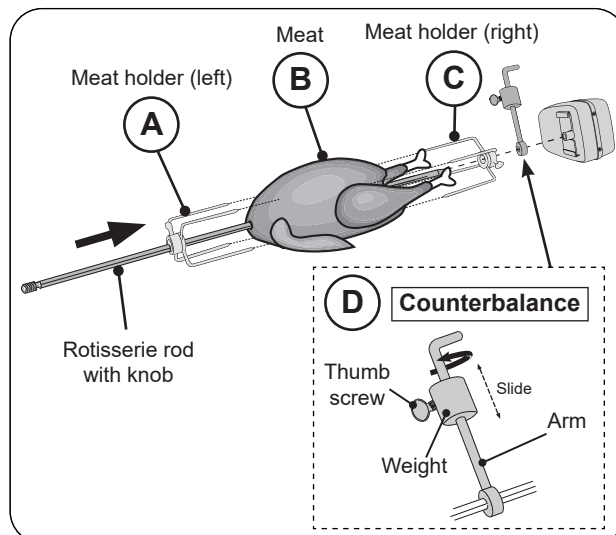

Fig. 39-3 Assemble rotisserie rod for cooking
4. Slide the left meat holder onto the rod and tighten (see Fig. 39-3, A).
5. Then slide meat onto the rod, followed by the right meat holder (see Fig. 39-3, B and C).
8. The counterbalance may then be attached to even weight distribution. Slide the counterbalance onto the rod next to the right meat holder (see Fig. 39-3, D). Loosen the arm and point it upward opposite the heavy side of the meat. Tighten the arm.
9. Slide the counterbalance weight up or down the arm until the rod rotates most evenly then tighten thumb screw (see Fig. 39-3, D).